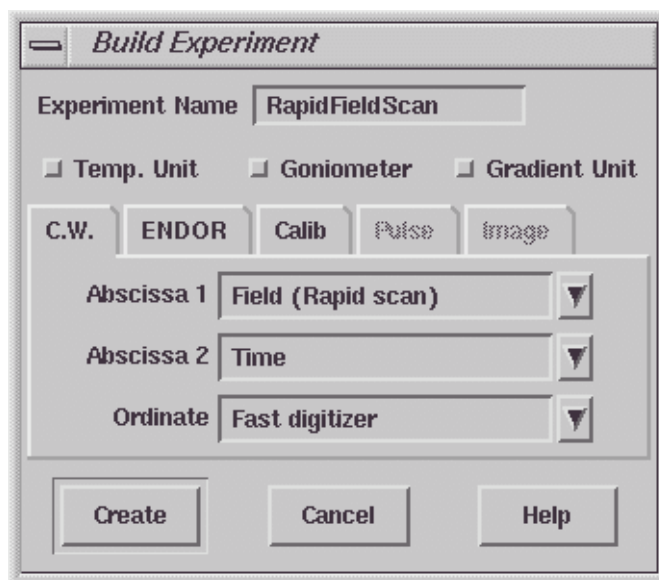

Figure 6-8 Defining a 2D rapid scan experiment.
1. **Create a 2D experiment.** Click the New Experiment button. Select Field (Rapid scan) as Abscissa 1 and Time as Abscissa 2. Select Fast digitizer as Ordinate. Click the Create button to close the dialog box. (See Figure 6-8.)